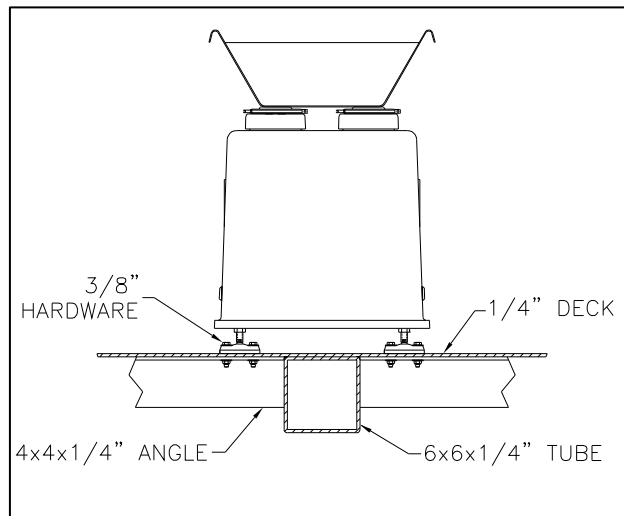

Figure 3-9 – Support Structure for Articulating Feet
- If the FastBack® Model 90E / 90E-G2 is to be placed directly on the deck, the articulating feet should be bolted through to a 4x4x1/4-inch piece of angle iron which is in turn welded to the central spine described above (see Figure 3-9). Do not bolt the FastBack® to the deck alone.